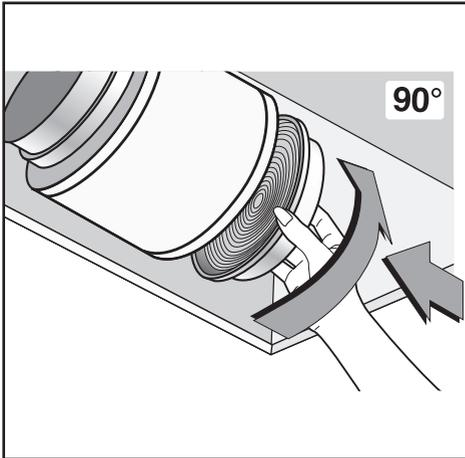

Fig.6
- If the hob is electric, gas, or induction, the minimum distance between the same and the lower part of the hood must be at least **65 cm**. If a connection tube composed of two parts is used, the upper part must be placed outside the lower part. Do not connect the cooker hood exhaust to the same conductor used to circulate hot air or for evacuating fumes from other appliances generated by other than an electrical source. Before proceeding with the assembly operations, remove the anti-grease filter(s) (Fig.6) so that the unit is easier to handle.
Install the hood and the two flues as described in the para-graph for installation of the hood in ducting version. To assemble the filtering flue refer to the instructions contained in the kit. If the kit is not provided, order it from your dealer as accessory. The filters must be applied to the suction unit positioned inside the hood. They must be centred by turning them 90 degrees until the stop catch is tripped (Fig.6).